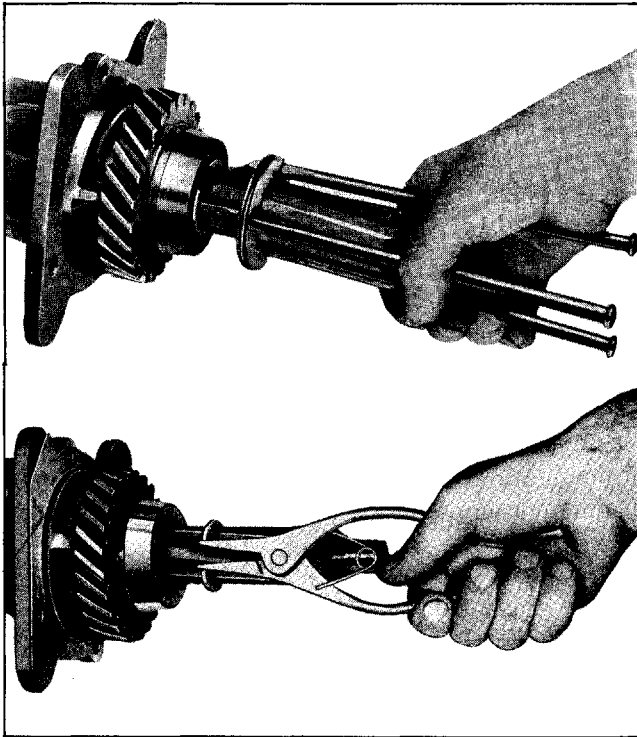

Fig. 7-27 Removing or Installing Snap Ring Using Tool J-1130 or KMO-630
b. Remove mainshaft snap ring, using snap ring remover, J-1130, or KMO-630 (Fig. 7-27) and then remove thrust washer and gear.
21. Oil inside of second speed gear and install gear and thrust washer on mainshaft. Install snap ring against thrust washer using tool J-1130 or KMO-630 (Fig. 7-27).